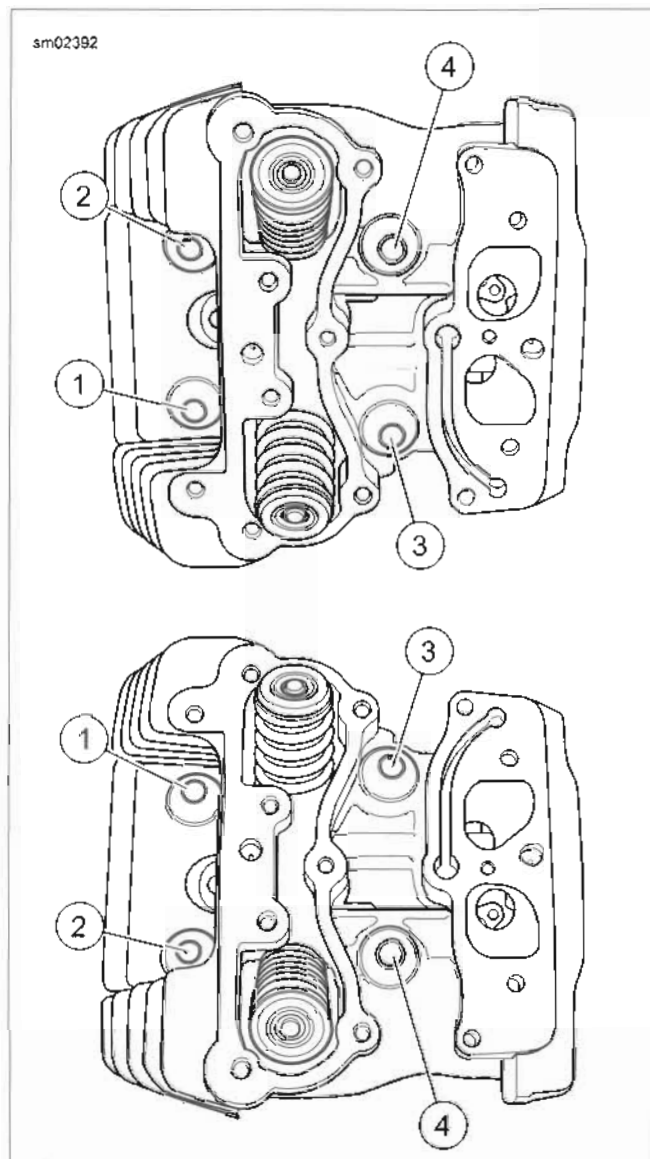

Figure 3-25. 1/4 Turn Head Bolts in Sequence
3. See Figure 3-25. Remove cylinder head bolts: